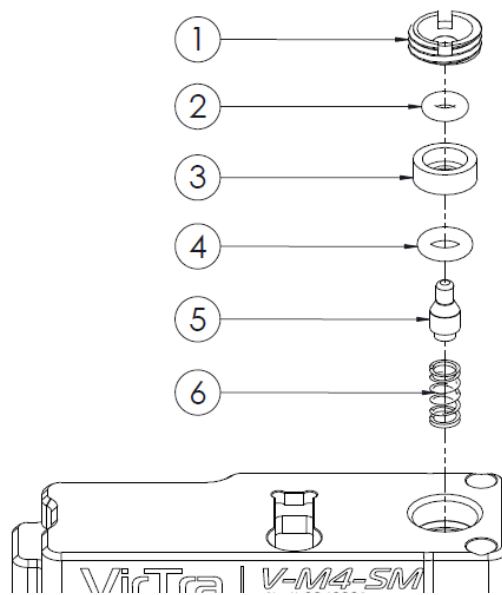

Figure 1: Double Seal Assembly
- Remove the double seal cap (Figure 1, #1) using a thick blade screwdriver.
- Use a small pick or screwdriver to remove the 005 O-ring (Figure 1, #2) and double seal spacer (Figure 1, #3). Inspect the O-ring and replace if any damage/wear is present.
- Use a small pick or screwdriver to remove the 007 O-ring (Figure 1, #4). Inspect the O-ring and replace if any damage/wear is present.
- Invert the magazine and allow the double seal valve (Figure 1, #5) and compression spring (Figure 1, #6) to drop free. Inspect the spring and replace if any damage/wear is present.